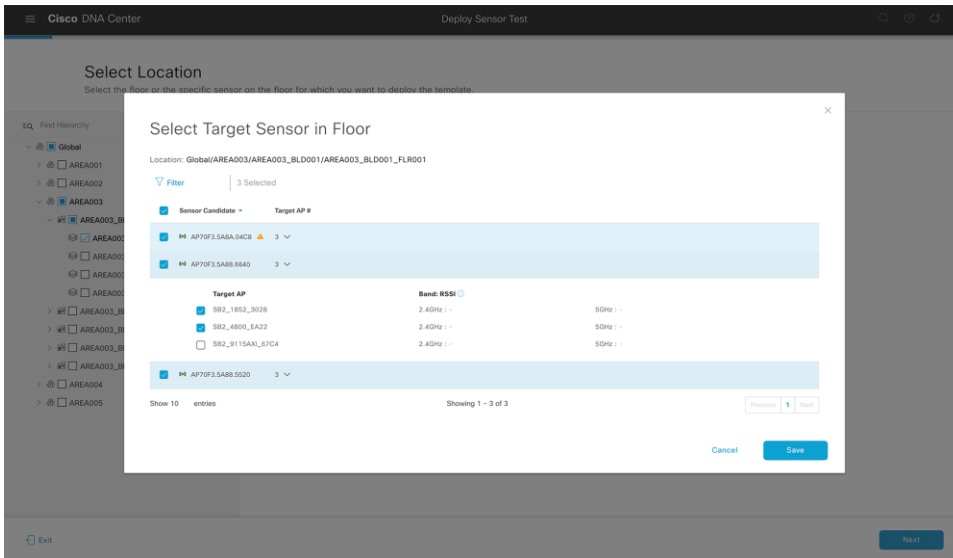

Figure 86.
- Optional – Select target APs: Expand the Target AP # column in each row to reveal the APs assigned to the same floor as each of the sensors. Selecting the check box next to the AP under each sensor will allow you to specify which AP each sensor will target during the test cycle. If none is selected, the sensor will test the number of APs configured within the test template using the RSSI threshold (**Figure 86**).
- Click **Save** and then **Next** to continue the workflow process (**Figure 86**).